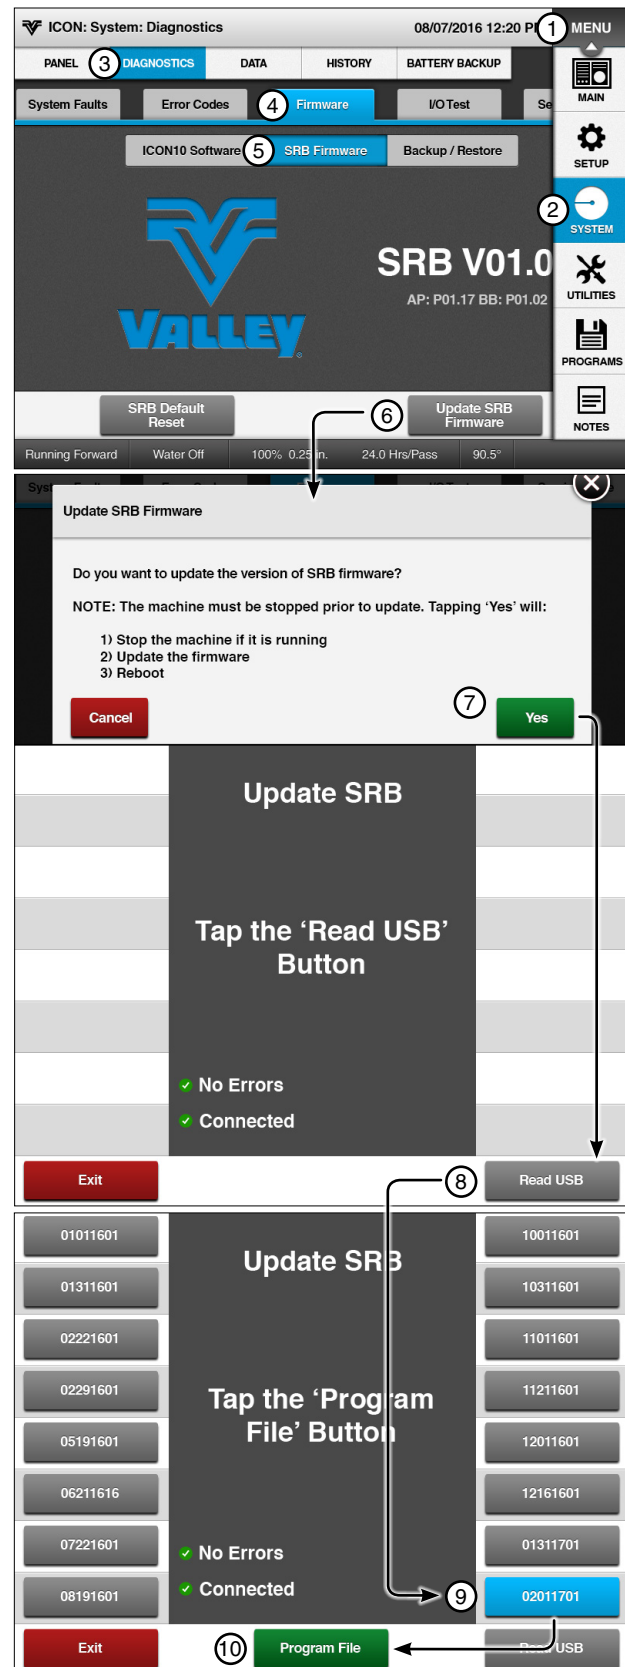

Figure 82-1 1. Menu 2. System 3. Diagnostics 4. Firmware 5. SRB Firmware 6. Update SRB Firmware 7. Yes 8. Read USB 9. Selected File 10. Program File
- To manually execute a firmware update, refer to Figure 82-1 and do the following: